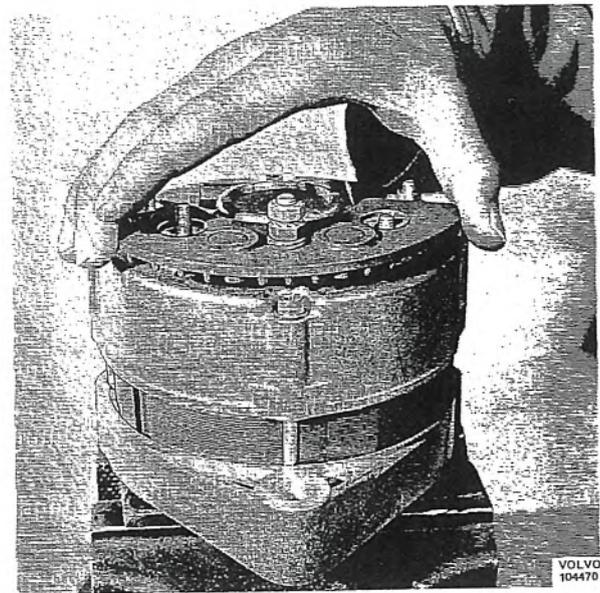

Fig. 3-6. Removing isolation diodes
3. Remove the nuts and washers on terminal 61 and the corresponding on the other side of the isolation diode. Lift off the isolation diode holder, see Fig. 3-6.